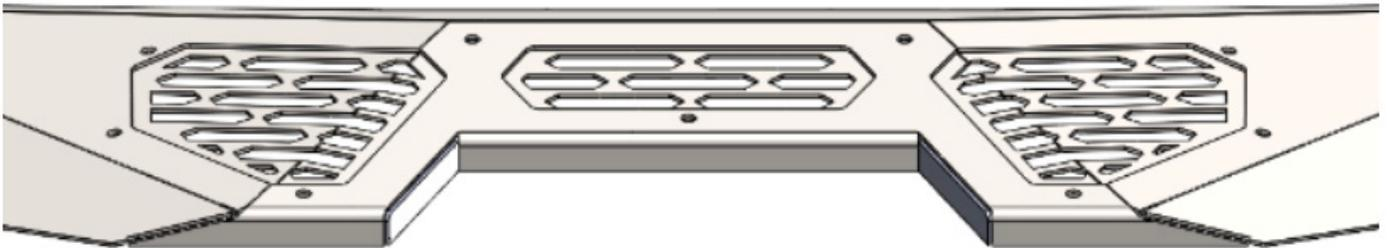

Figure 19
19. Install the visor mesh insert using the provided 9x stainless steel button head bolts with washer, lock washers and nuts. If installing a light insert (VC4101-VC4102) replace the mesh with the desired insert and install lights before placing the visor on the truck. Figure 19.